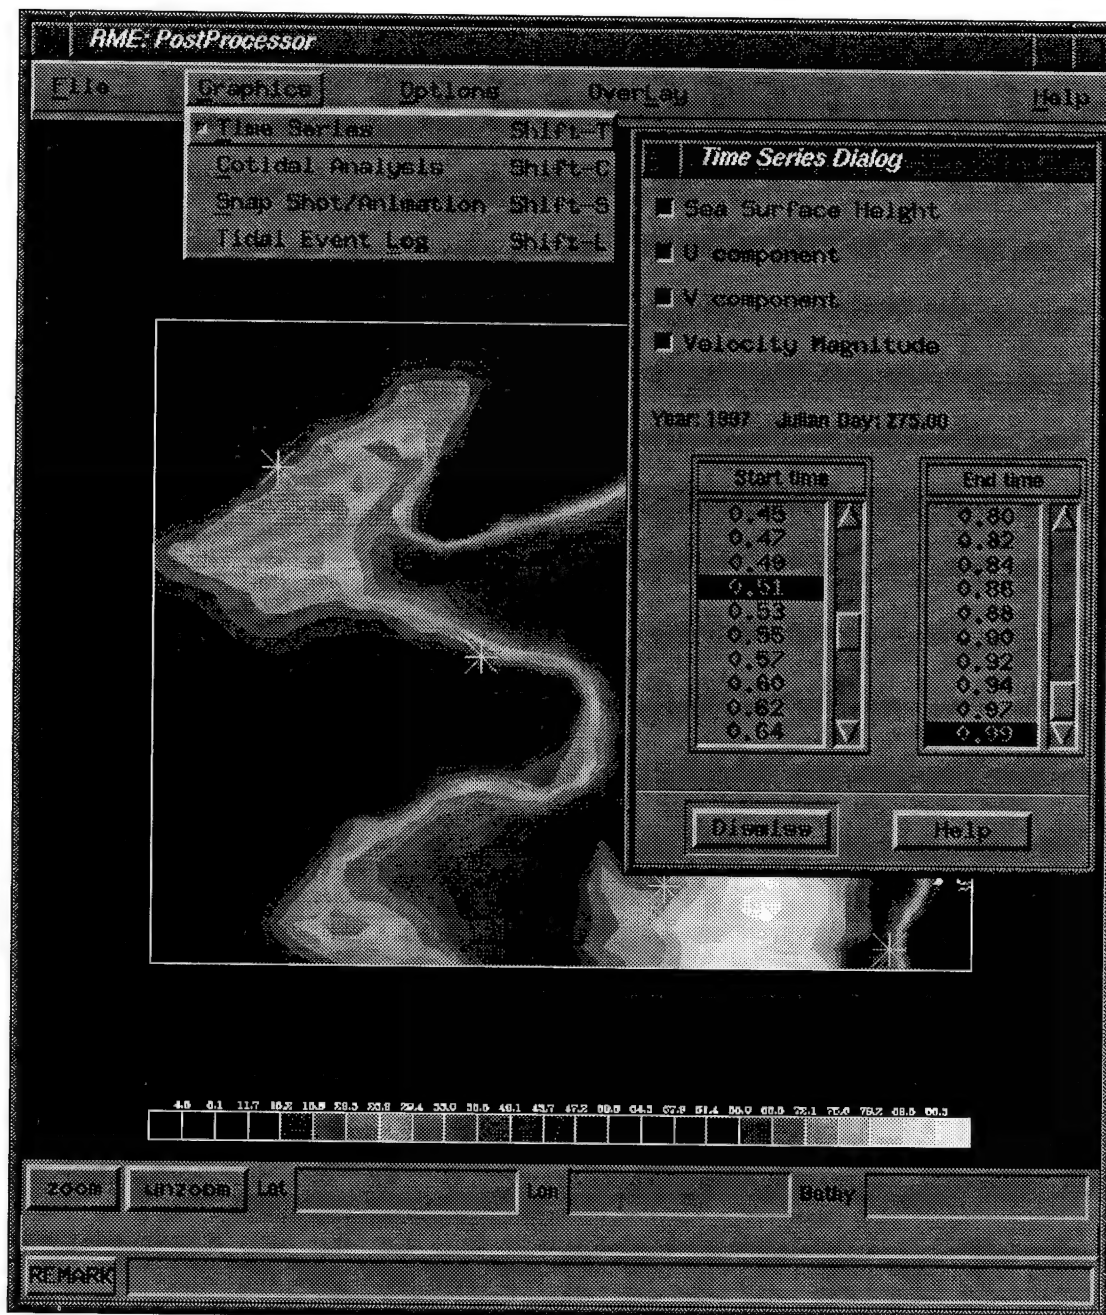

Figure 28 – Time-series dialog window in the Post-Processor GUI
This module has been designed as a tool for result visualization and data interpretation. After the completion of remote execution, the user can hit the 'back' button on the 'RME Data Page' (Figure 9). See section 2.2.2 for details. Once the five database icons are visible, the user can click on either the 'Res-Coarse' icon to view the regular grid results database, or the 'Res-fine' icon to view the nested grid result database. Once the appropriate database is displayed, the relevant icon can be dragged to the 'Post-Processor' icon to activate the process. This pops up a window with the bathymetry plotted as in the 'Pre-Processor' (Figure 28), with yellow asterisks marking the saved locations for time series. It also pops up a 'TimeSeries Dialog' window (Figure 28).
The Menu Bar in the Post-Processor consists of four interactive menu headers labeled: 'File', 'Graphics', 'Options' and 'Overlay' (Figure 28). The pull down menu for 'File', 'Options' and 'Overlay' are identical to that of the Pre-Processor (see section 2.2.2.1). The 'Graphics' header replaces the 'Edit' header. The pull down features of the 'Graphics' interactive header are discussed in the next section.
1. Click on the radio buttons to select the parameters for which time-series is required in the 'Time Series Dialog' window (Figure 28).
2. The bathymetry is displayed again in the main Post-Processor window with the yellow asterisks marking the saved locations (Figure 28).